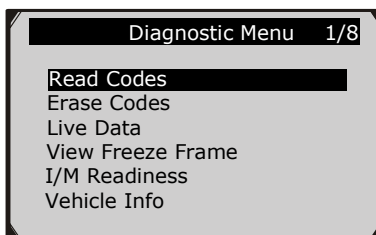

Figure 4.3
- 7) View a summary of system status (MIL status, DTC counts, Monitor status) on screen. (Figure 4.1 ) Wait a few seconds or press any key for **Diagnostic Menu** (Figure 4.3) to come up.
- 1) Use the **SCROLL** button to select **Erase Codes** from **Diagnostics Menu** and press the **ENTER/Exit** button. (Figure 4.3)
- 1) To view live data, use the **SCROLL** button to select **Live Data** from **Diagnostic Menu** and press the **ENTER/Exit** button. (Figure 4.3)
- 1) To view freeze frame data, use the **SCROLL** button to select **View Freeze Frame** from **Diagnostic Menu** and press the **ENTER/Exit** button. (Figure 4.3)